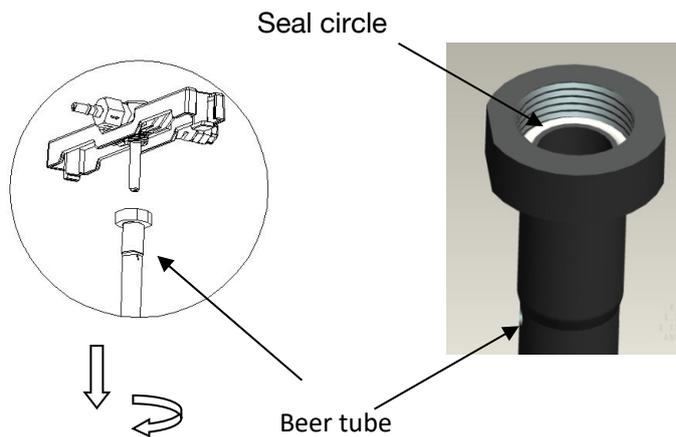

Figure 34
C. REPLACE THE SEAL CIRCLE OF BEER TUBE (SHOW AS FIGURE 34)